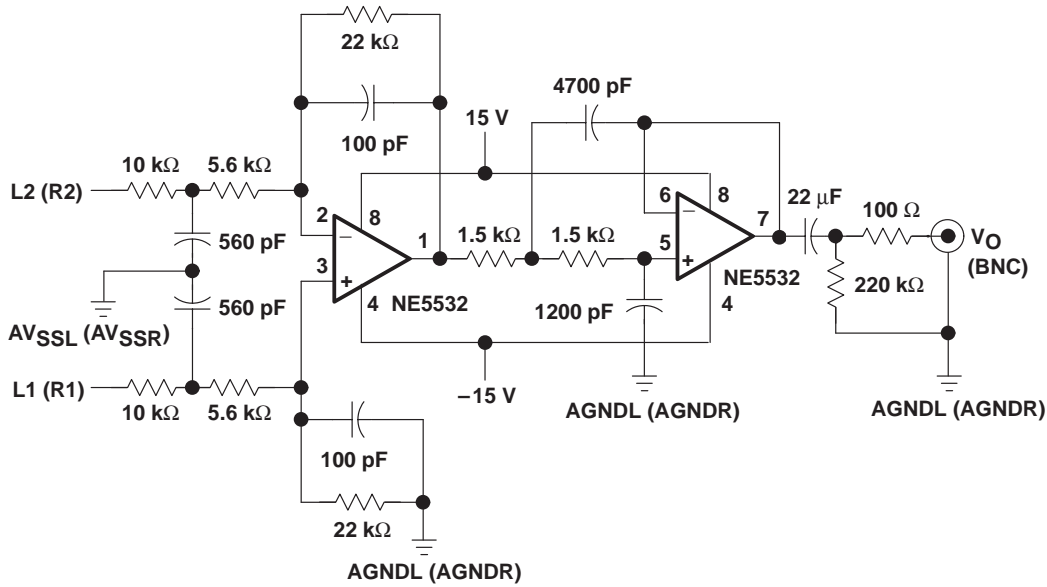

Figure 7. Analog Low-Pass Filter Recommended for Measuring the Dynamic Specifications of the TMS57014A
Each DAC left and right output consists of 15 levels of PWM and provides a differential signal as the input to two external differential amplifiers configured as a low-pass filter to produce the left and right audio outputs (see Figure 7).
NOTE 5: These specifications are measured at the output (VO) of the low-pass filter shown in Figure 7.